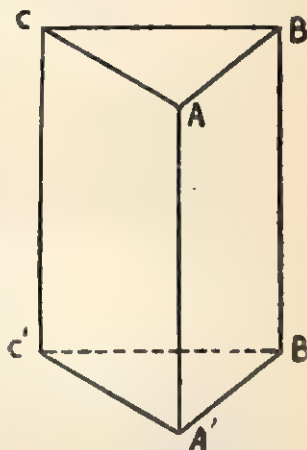

Fig. 11.1. A Glass Prism.
(1) **Prism.** It is the wedge-shaped piece of a transparent material bounded by three planes inclined to each other. The line along which any two transparent faces of the prism meet is called the *refracting edge* of the prism and the angle between these faces is called the *refracting angle* as shown in Fig. 11.1. The section of a prism by a plane perpendicular to the refracting edge is called the *principal plane*. Thus  $ABC$  or  $A'B'C'$  are principal planes. The face of the prism opposite to its refracting edge is called the *base*.